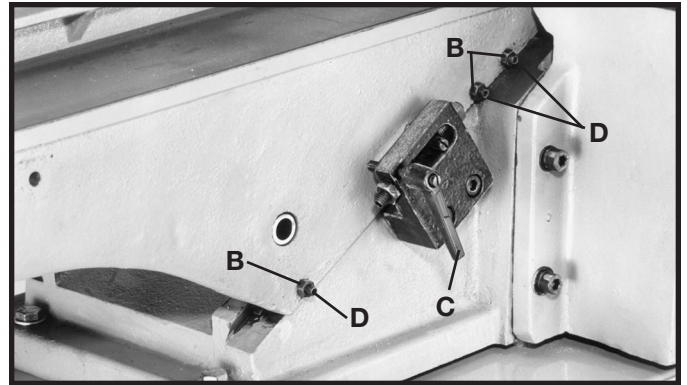
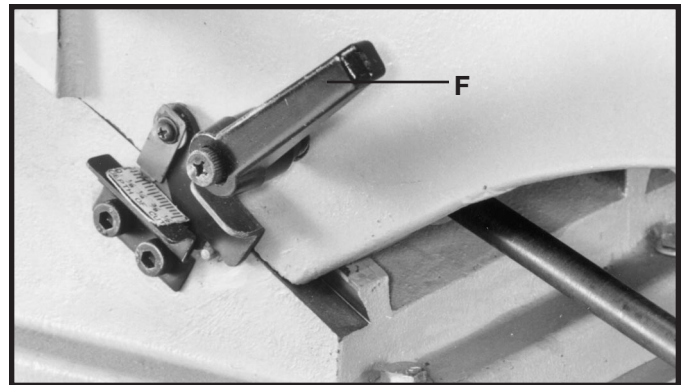

Fig. 47
Fig. 48
1. To adjust the infeed table gib, loosen locking knobs (C) Fig. 47 and (F) Fig. 48. Loosen three locknuts (B) Fig. 47, and tighten or loosen three adjustment screws (D) as necessary. **NOTE:** Adjust the lower screw first and as you proceed to the upper adjustment screws, gently raise the outboard edge of the table. This will offset any tendency for the table casting to “droop or sag” and permit the gib to be adjusted to the proper fit to the upper adjustment screws. Tighten three locknuts (B) Fig. 47, and two table locking levers.